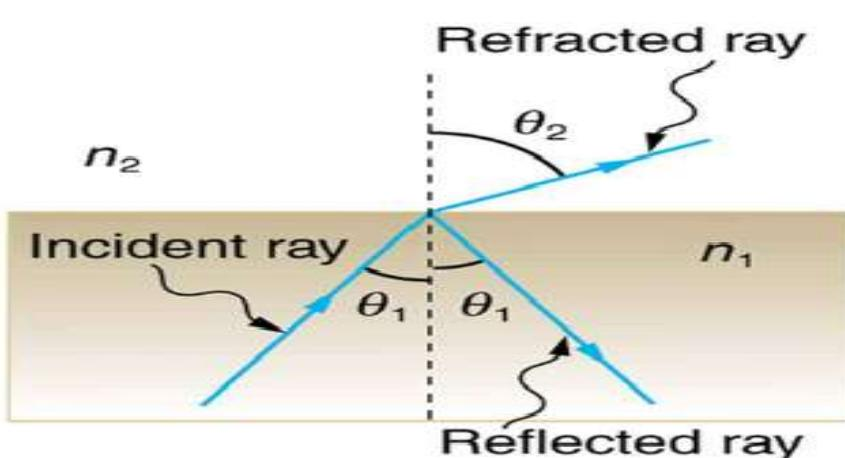

Fig. 1.19 Incident ray refracted into rarer medium
- ❖ In Fig. 1.19, a ray of light travels from denser medium (n_1) to rarer medium (n_2). The angle of incidence of the light ray is less than the critical angle (θ_c) and hence the ray is refracted away from the normal in rarer medium. Now imagine what happens as the incident angle is increased. This causes θ_2 to increase.